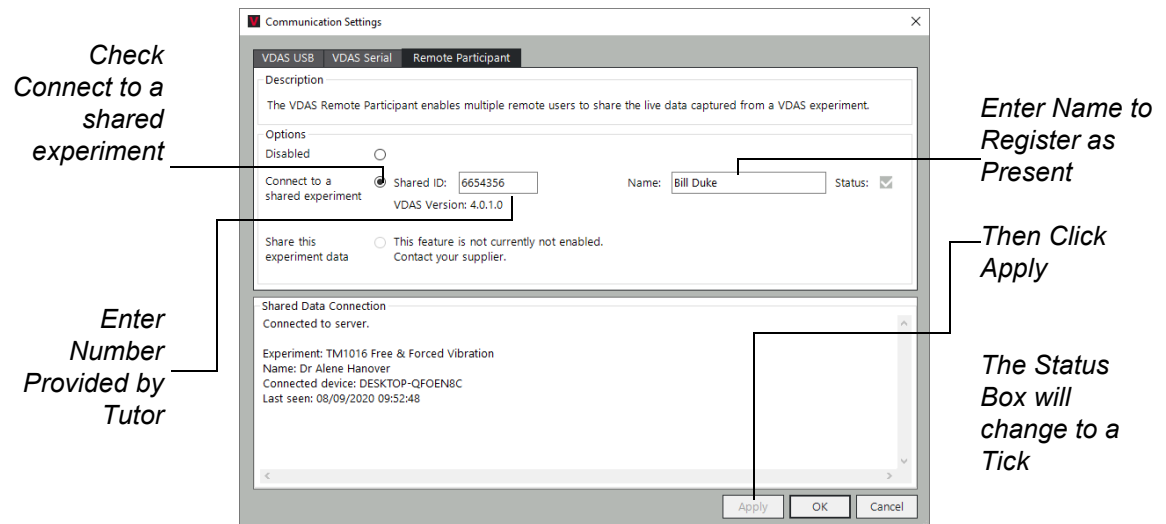

Figure 16 Connect to a Shared Experiment
1. Select: Connection, Communication Settings to open the Communication Settings dialogue box (Figure 16).